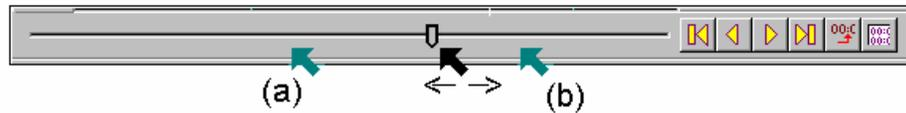
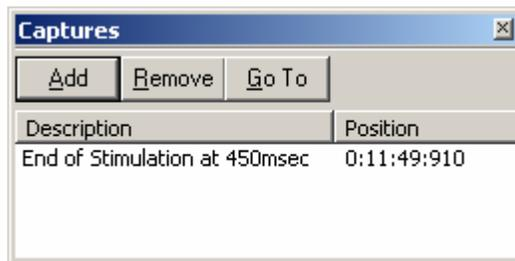

Figure 09
Figure 11
- : Opens the capture window [CAPTURES] (See **Figure 11**)
- Click on (Figure 09). The following screen will appear:
- Click on the button  (**Figure 09**). The capture window will appear.
- 1) Click on the button  (**Figure 09**). The capture window (**Figure 11**) will appear.
IMPORTANT: We recommended saving only the parts of the study that are of interest to the physician.. The maximum recording time is 8 hours. Every stored hour of data consumes 120 Mbytes of hard disk memory space. If the storage option is not activated, the physician can nevertheless retrieve any image of the study by means of the position control (**Figure 09**) while the study is running. After finishing the session, only the stored data is retrievable.